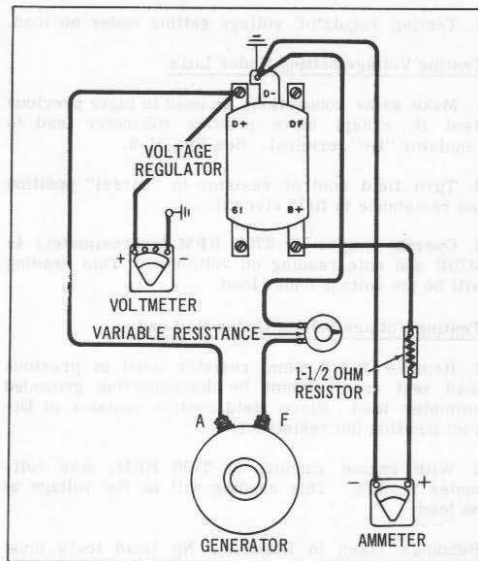

Figure 5I-7.
##### B. TESTING CUTOUT RELAY UNIT CLOSING VOLTAGE - SAME CONNECTIONS ARE USED AS IN TEST A (FIG. 5I-7)
3. Slowly turn field control toward "Direct" position. As the resistance is decreased, the voltmeter reading will increase. Note the highest reading on the voltmeter before the pointer "kicks". This will be the relay closing voltage. Repeat operation a few times, each time returning the field control resistor to "Open" position. If the closing voltage is not within specifications, (see Fig. 5I-1) replace regulator.
##### C. TESTING VOLTAGE CONTROL UNIT SETTING. (FIG. 5I-8)